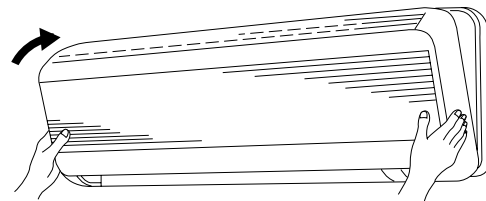

Fig. 18
- (1) Close the flaps.
- (2) Reinstall the grille into the lower part while aligning its tabs on the upper part. (Fig. 18) Insert the tabs in the slots and push the lower part of the grille back into position.